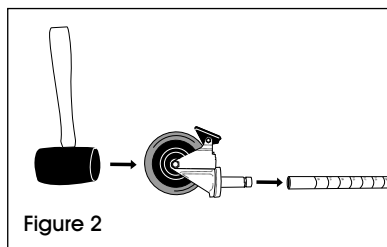

Figure 2
1. Make sure post is positioned as shown. (See Figure 2)
2. Engage the wheel brakes to keep casters from rolling during assembly. Use a rubber mallet to tap caster stems into posts. (See Figure 2)